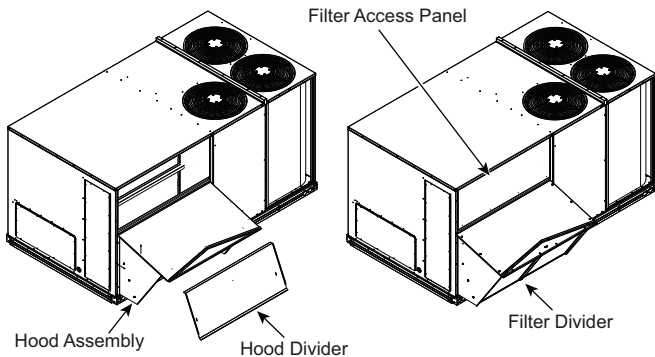

Fig. 4 — Install the Vertical Hood Assembly
5. The hood for the vertical EconomizerONE units is shipped with the economizer. The hood top and sides are factory assembled. Attach the hood divider to the hood assembly and then attach the hood assembly to the RTU as shown in Fig. 4.
6. Attach the filter divider and reinstall the filter access panel as shown in Fig. 4.